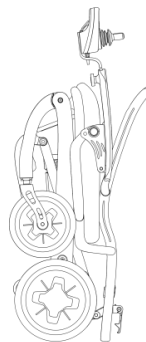

Figure 15
4.2.4 Fully folded state. (See Figure 15)